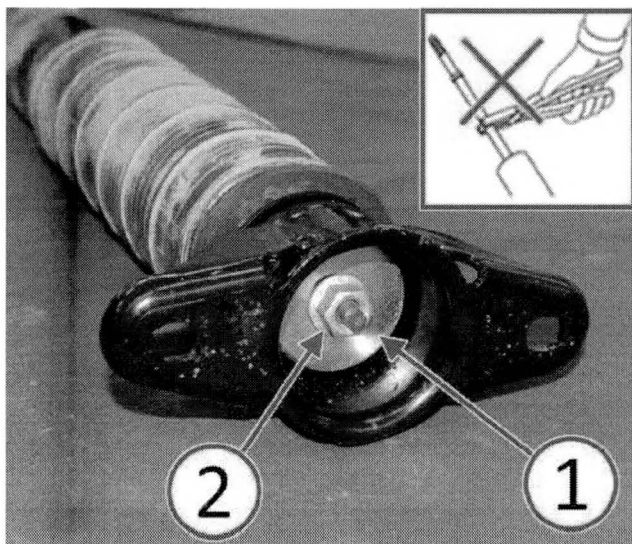

Fig. 4 Shock Upper Mount Fastening
7. Install the washer (1) and nut (2) by hand onto the shock absorber shaft. (Fig. 4).
8. Use the 6 mm oval/double-D shock absorber shaft socket tool to hold the shock absorber shaft from turning, while using the 15 mm shock absorber nut socket tool to tighten the shock upper mount nut (2) to 28 N·m (20.7 ft. lbs.) (Fig. 4).